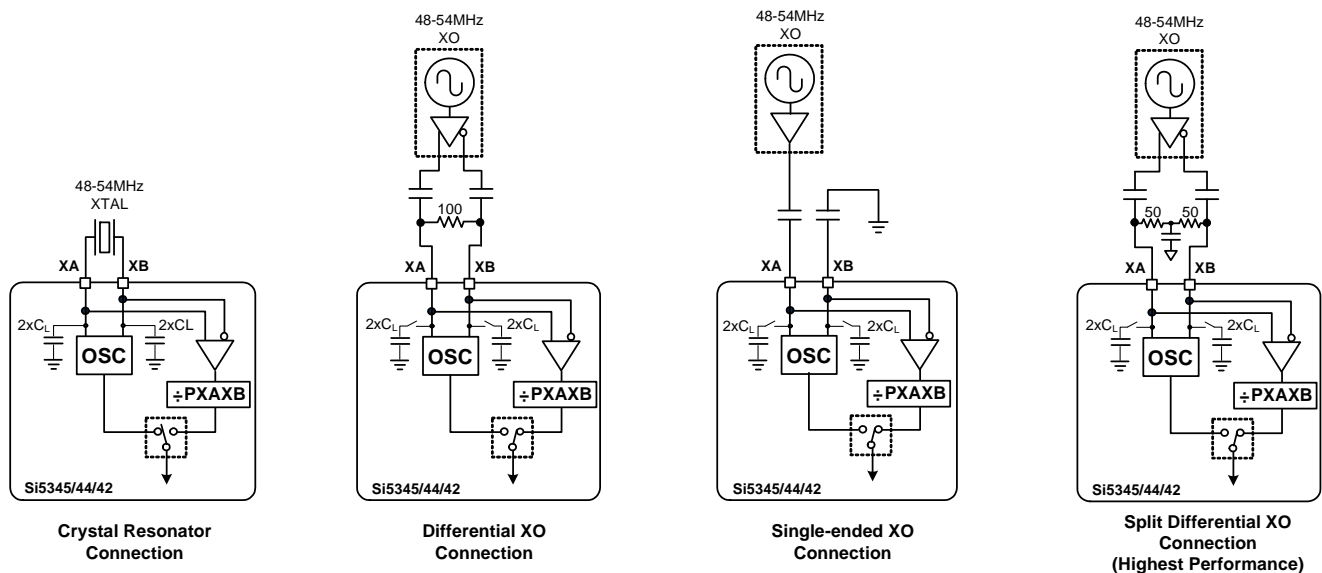

Figure 35. Crystal Resonator and External Reference Clock Connection Options
An external standard non-pullable crystal (XTAL) is used in combination with the internal oscillator (OSC) to produce an ultra low jitter reference clock for the DSPLL and for providing a stable reference for the free-run and holdover modes. A simplified diagram is shown in Figure 35. The device includes internal XTAL loading capacitors which eliminates the need for external capacitors and also has the benefit of reduced noise coupling from external sources. Although the device includes built-in XTAL load capacitors (CL) of 8 pF, crystals with load capacitances up to 18 pF can also be accommodated. Frequency offsets due to CL mismatch can be adjusted using the frequency adjustment feature which allows frequency adjustments of ± 200 ppm. The recommended crystal suppliers is provided in Table 30 with PCB layout recommendations for the crystal to ensure optimum jitter performance.